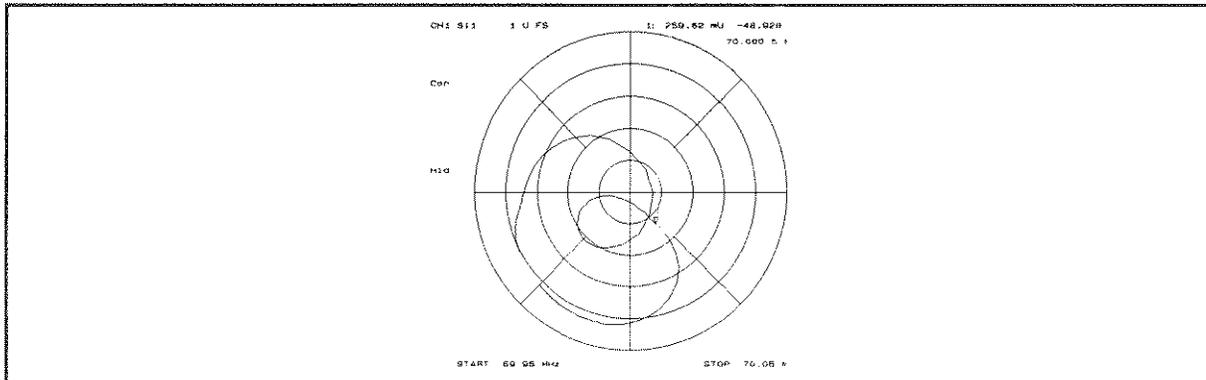

Figure 6-14. Polar Format
**POLAR** (POLA) displays a polar format (Figure 6-14). Each point on the polar format corresponds to a particular value of both magnitude and phase. Quantities are read vectorally: the magnitude at any point is determined by its displacement from the center (which has zero value), and the phase by the angle counterclockwise from the positive x-axis. Magnitude is scaled in a linear fashion, with the value of the outer circle usually set to a ratio value of 1. Since there is no frequency axis, frequency information is read from the markers.